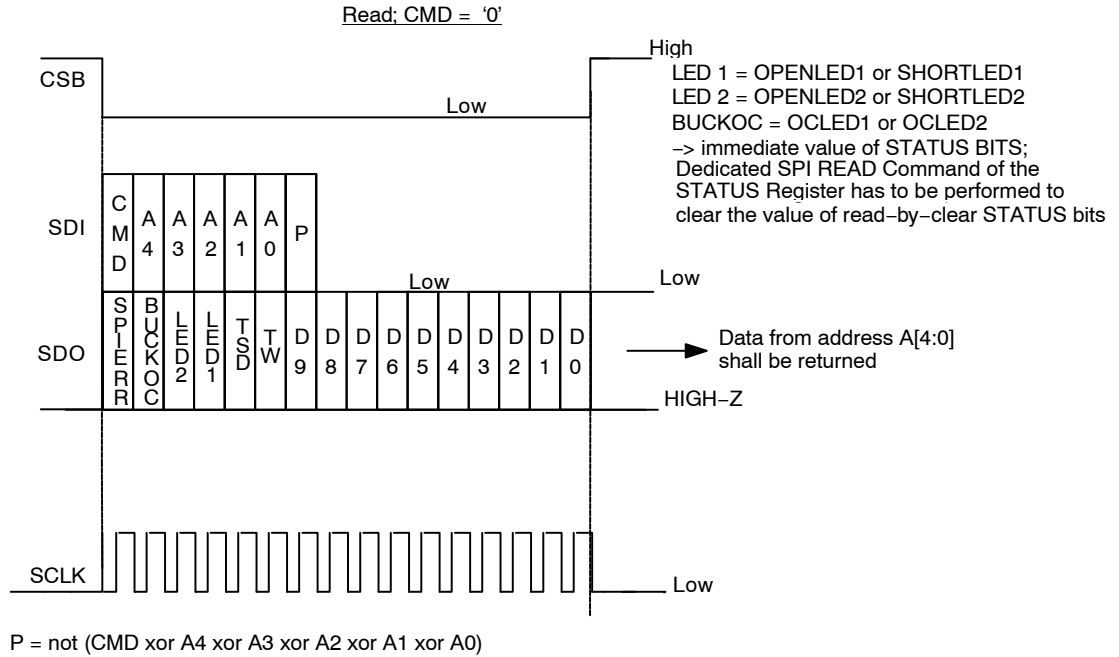

Figure 24. SPI Read Frame
- If the previous command was a read, the response frame summarizes the address used and an overall diagnostic check (copy of the main detected errors, see Figure 23 and Figure 24 for details)